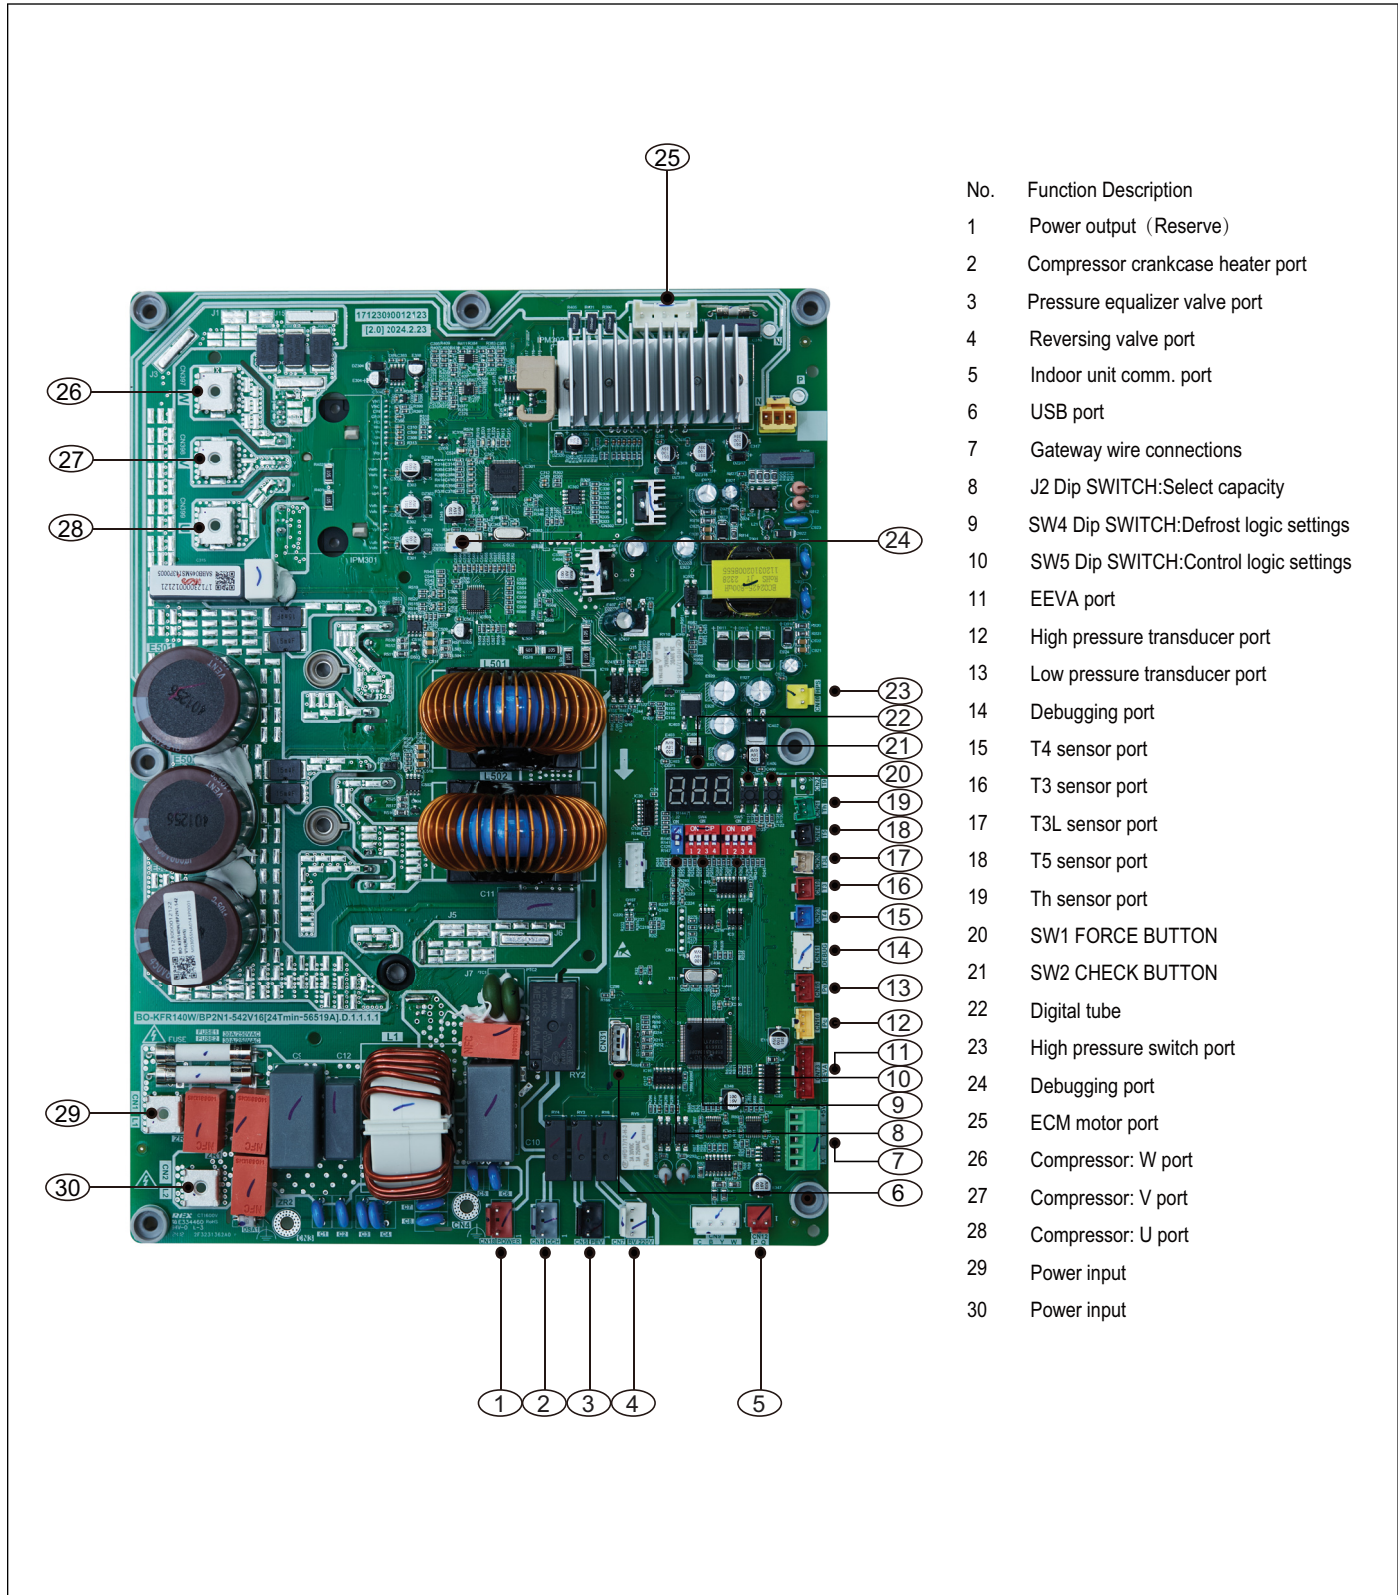

Figure 69
- To display system parameters, press the “Check” button to index through the series of parameters available. The first time you press the “Check” button, it will display the sequence, and after 1 second it will display the value of the parameter. If you press the “Check” button again, it will display the next sequence. Refer to Figure 68 and Figure 69 for check button location on the control board.